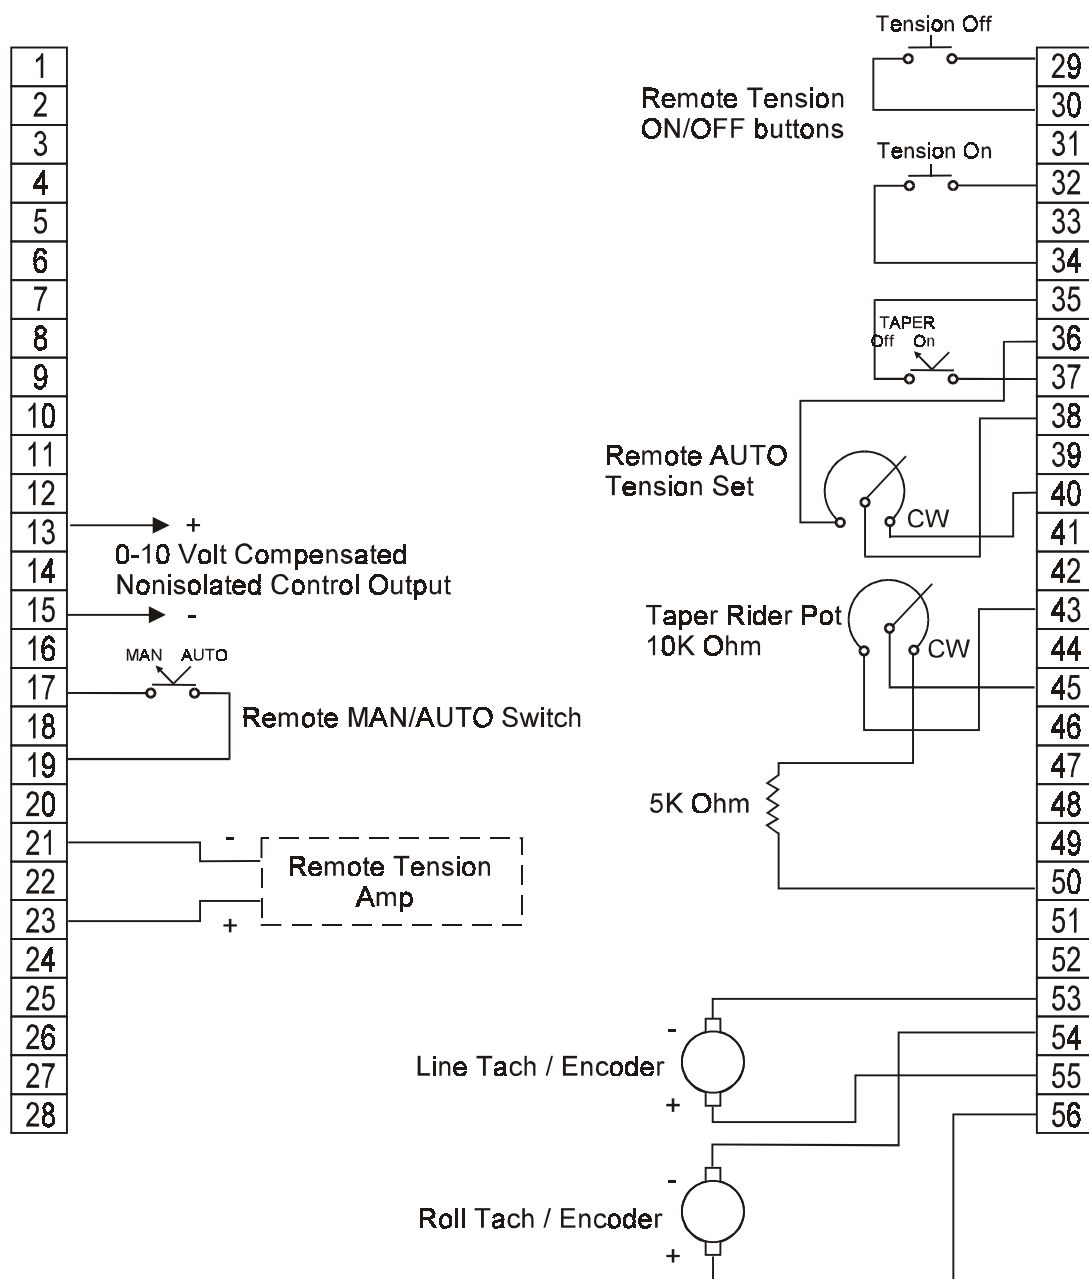

Figure 11 - ELECTRICAL CONNECTIONS OF OPTIONS
Refer to the drawing below for electrical connections. If your controller has any optional equipment, refer to Figure 11 on page 12 of this manual for the appropriate connections. TB201, TB203 and TB204 are located on the Power Board.
- h) To apply the calibration weight specified in step f, fasten one end of the rope (from step a) in the machine and thread the other end around the transducer roll and idlers directly before and after it. Thread it in exactly the same path as the web will take. Be sure it does not pass around any driven rolls, drag bars, or anything else that can affect tension. Refer to Figure 11 below. Once the calibration weight is in place, press **ENTER**.